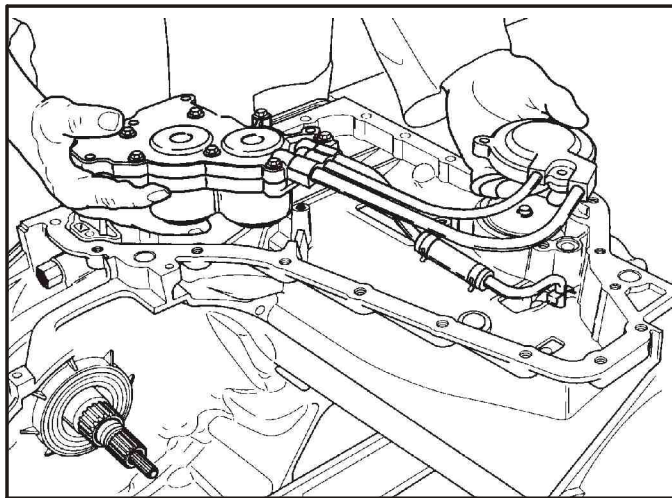

Figure 42
8. Lift the 1-2/2-3 accumulator assembly, pipe assembly and 2-1 manual servo cover from the case at the same time, as shown in Figure 42.